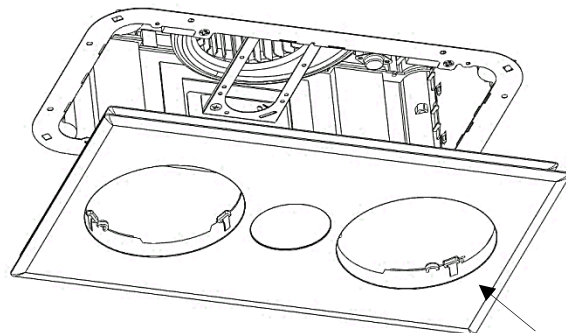

Fig.2
- 2) Undo the front cover (Fig.2) by detaching the 4 x springs.